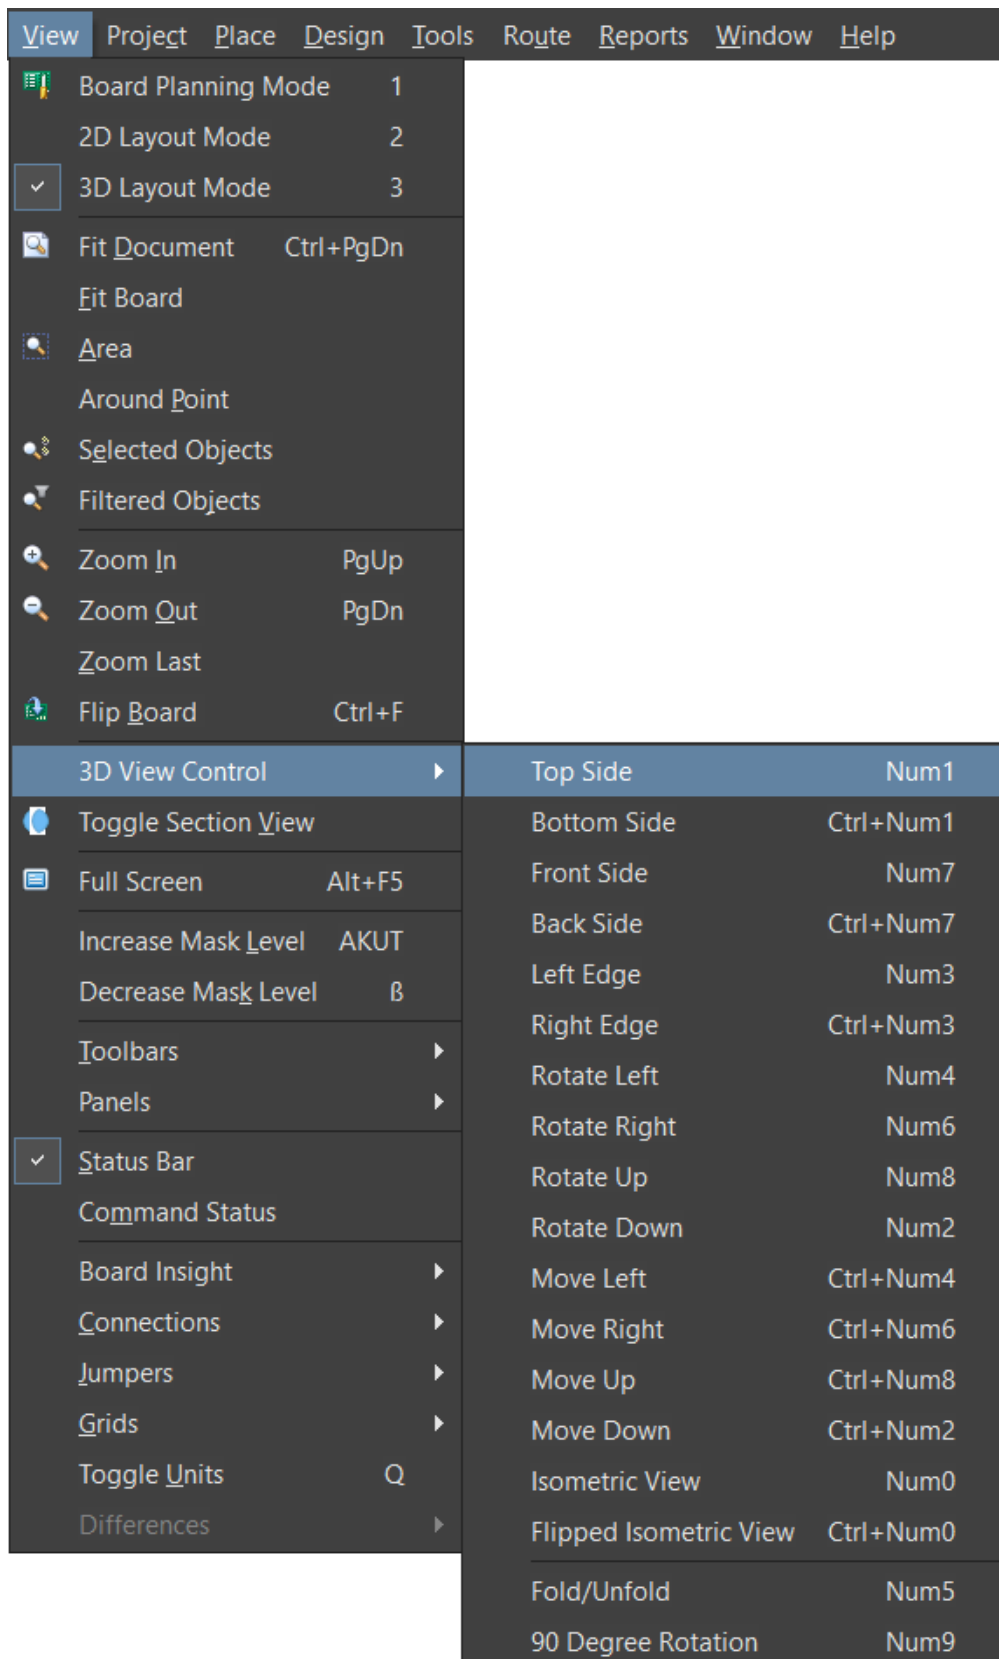

Figure 6. PCB 3D View Control
23. Instead of using the orb you can control the 3D View with shortcut key / menu commands from the **View Menu**, see Figure 6.